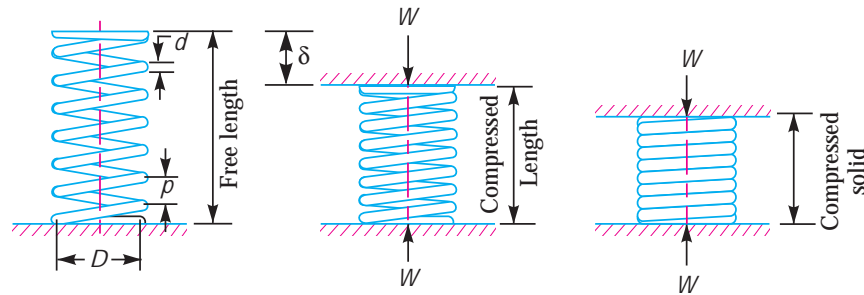

Fig. 23.6. Compression spring nomenclature.
2. Free length. The free length of a compression spring, as shown in Fig. 23.6, is the length of the spring in the free or unloaded condition. It is equal to the solid length plus the maximum deflection or compression of the spring and the clearance between the adjacent coils (when fully compressed). Mathematically,